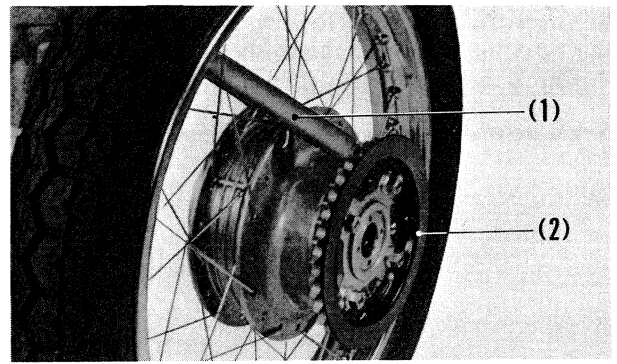

Fig. 5-38 (1) Wood block
5. Remove the 69 mm snap ring and remove the final driven sprocket as shown in Fig. 5-38.